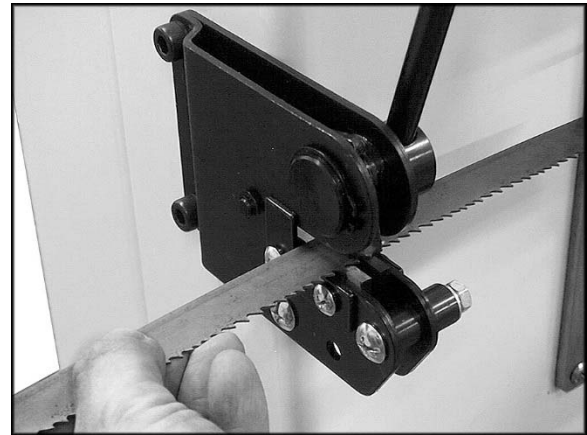

Figure 9
2. Position blade against back of square cutting guide of shear. See Figure 9. Make sure blade is held square with shear knife, so that cut will be square with blade.